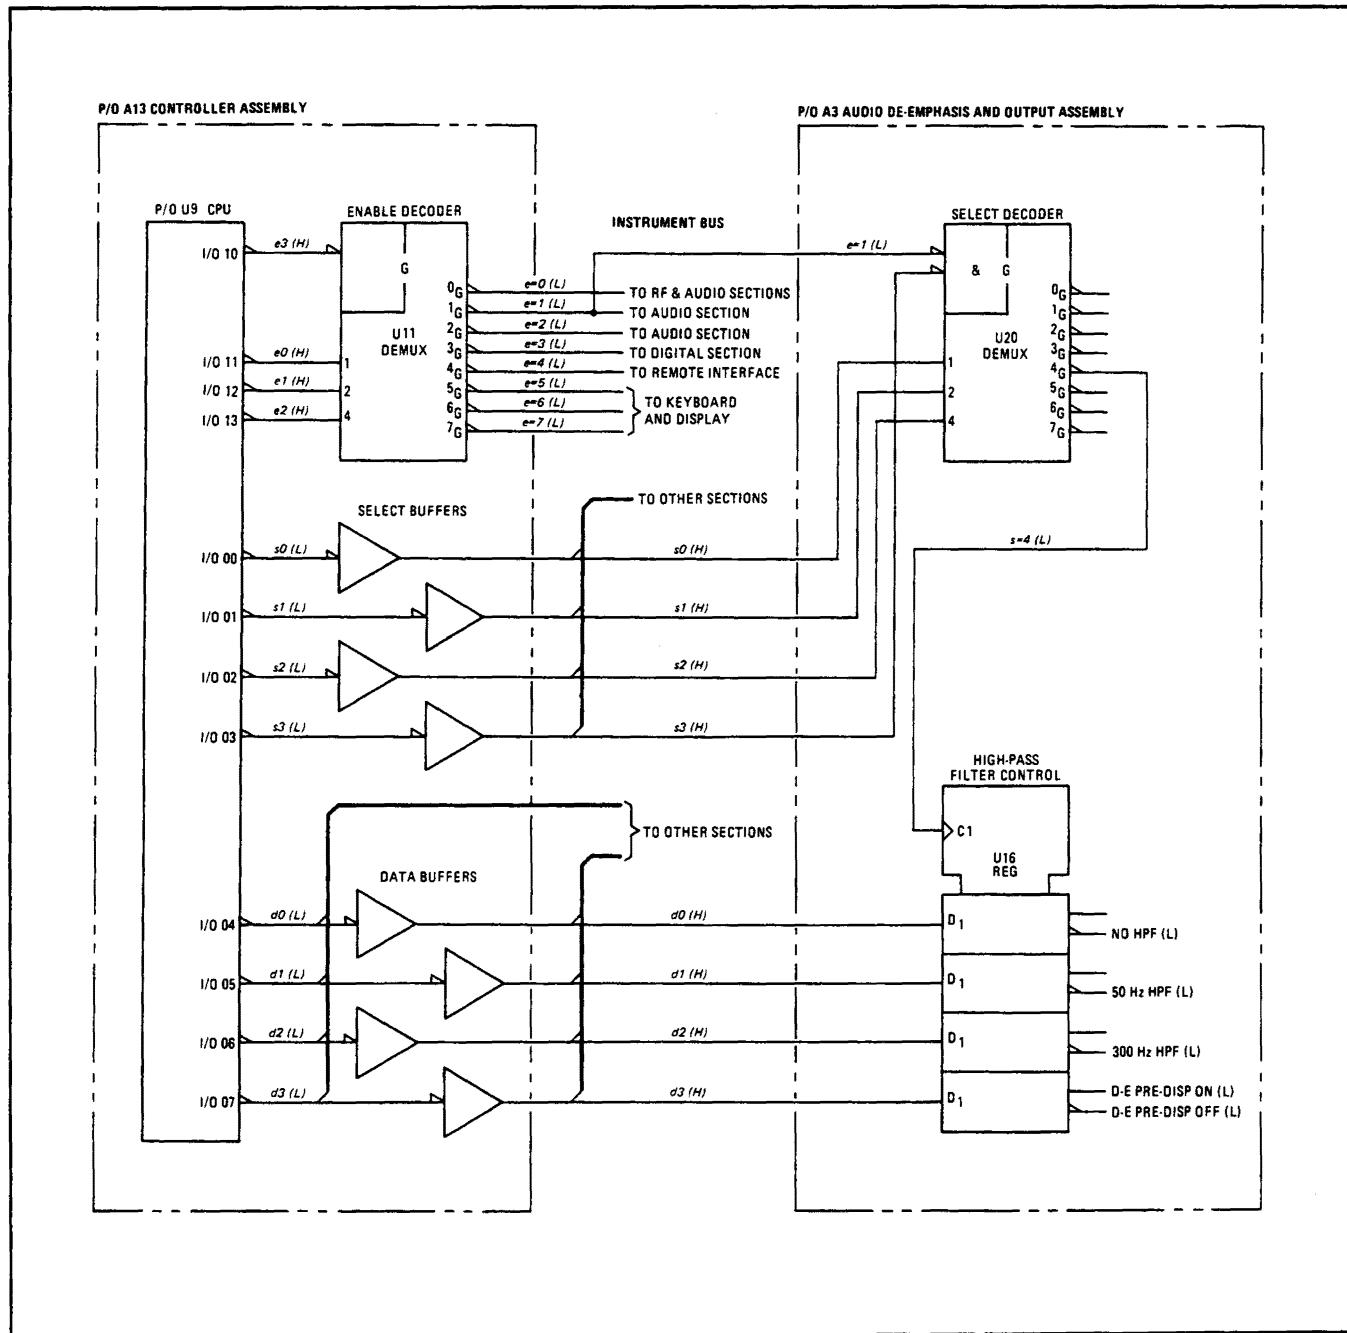

Figure 8D-7. Example Showing Instrument Bus Hookup
Figure 8D-7 shows a typical hookup on the Instrument Bus. The Instrument Bus lines are broken down into three groups: enable (e), select (s), and data (d). The enable code (e_0 to e_3) comes from I/O lines 10 through 13 of the CPU (A13U9).
Figure 8D-7 illustrates how the 50 Hz High-Pass Filter is selected. The filter (not shown) is activated when the output line of the High-Pass Filter Control (A3U16) labeled 50 Hz HPF(L) goes low. Register U16 is simply a latch; it does not decode the data. To activate the 50 Hz High-Pass Filter, the CPU sends out the binary enable code 0001 (hexadecimal 1), select code 0100 (hexadecimal 4), and data code 0010 (hexadecimal 2). The Enable Decoder activates the line e=1(L). The decoder was enabled because e3(H) was low. Since s3(H) is low, and since e=1(L) is also low, the Select Decoder (A3U20) is enabled. The three least-significant bits of the select code are decoded and activate the s=4(L) line out of the decoder. This line clocks the data into the High-Pass Filter Control latch. Since the d1(H) line is high, the 50 Hz HPF(L) line goes low. This selects the 50 Hz High-Pass Filter.